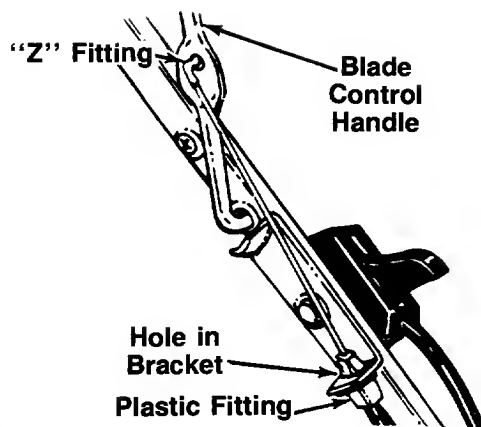

FIGURE 3.
1. The brake cable is attached to the engine, and has a "Z" fitting on the loose end. Route the brake cable below the lower handle. Place end of cable through the hole in the bracket as shown in figure 3.
2. Hook the "Z" end of the brake cable into the hole in the blade control handle from the inside to the outside as shown in figure 3.